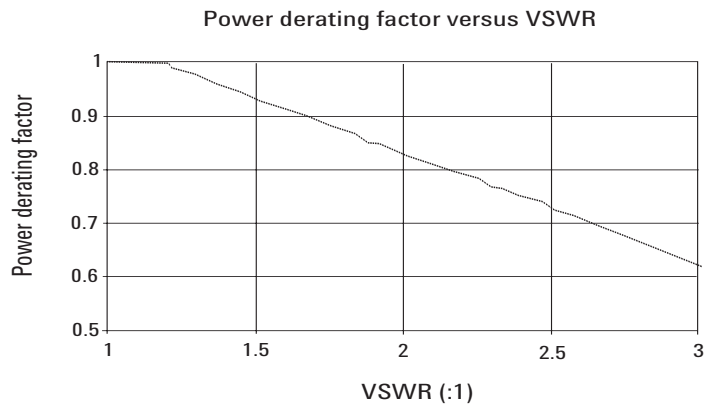

Figure 6 Power Derating Factor vs VSWR
- Low VSWR < 1.2 (See Figure 6 for derating above 1.2 VSWR)